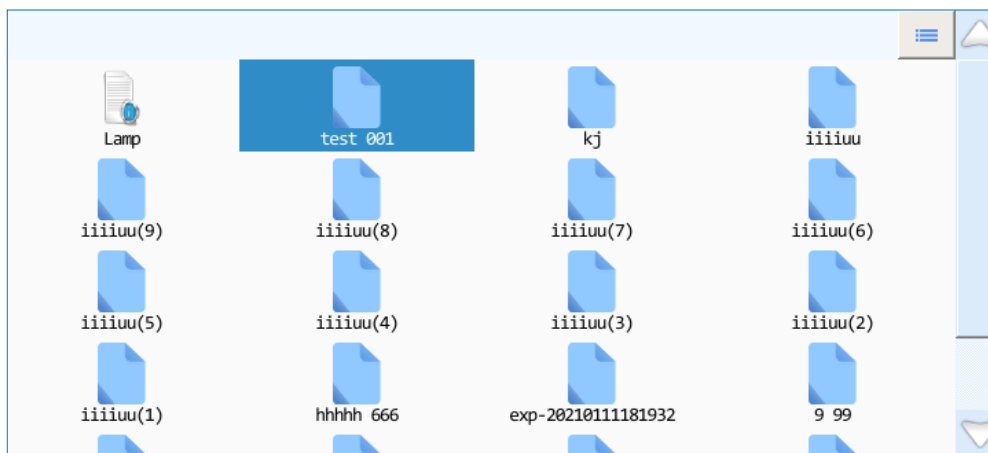

Figure 3.2b Experiment File Interface - Experiment file display area
2. **File Displaying Area:** display the pre-existed files within the instrument system, as shown in figure 3.2b